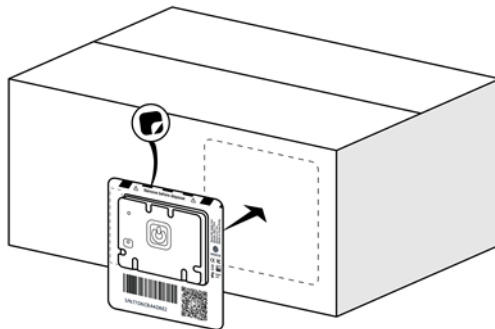

Fig. 6.1.1: Attaching the device to cargo
3. Attach the device to the cargo by removing the protective film at the back and sticking the device to the surface (Fig. 6.1.1).